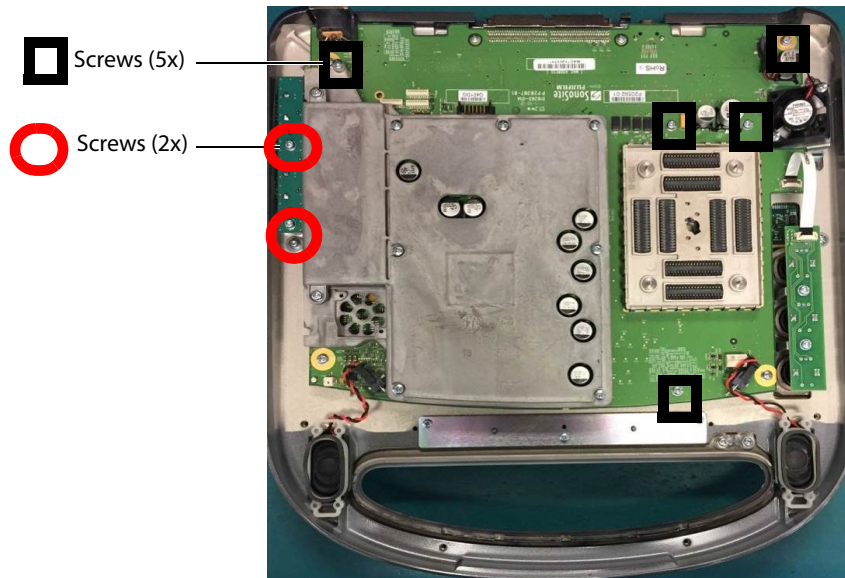

Figure 6.15 Main PCBA Screws
- 3 Remove the 5 screws holding the Main PCBA and the 2 screws holding the USB Extension PCB onto the SonoSite Edge II Base. Refer to Figure 6.15.